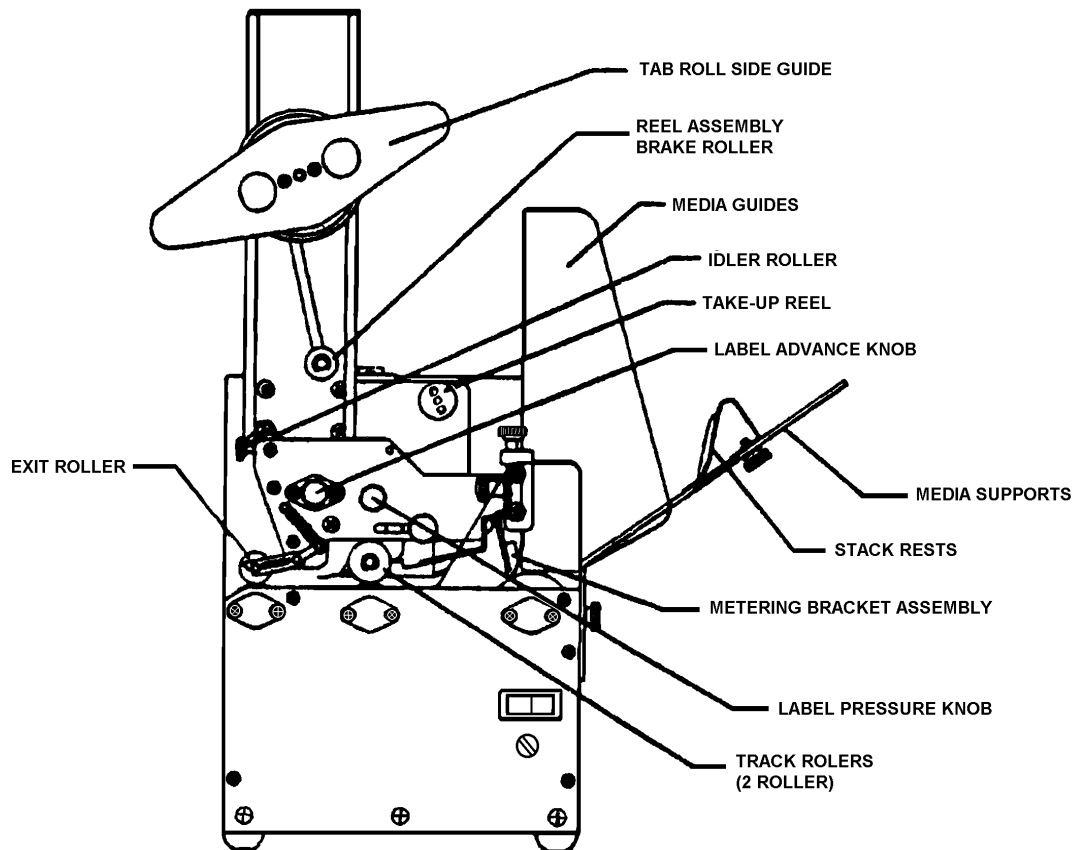

Figure 2
2. Attach MEDIA GUIDES (Fig. 2).
4. Install TRACK ROLLERS [2 ROLLER] (Fig. 2).
5. Install MEDIA SUPPORTS and STACK RESTS (Fig. 2).
1. Remove MEDIA GUIDES (Fig. 2 and 2A).
3. Remove MEDIA SUPPORTS (Fig. 2.)
4. Remove TRACK ROLLERS [2 roller] (Fig. 2).
4. Position STACK RESTS (Fig. 2) under mail piece. Position MEDIA AUPPORTS (Fig. 2) so that back edge of mail piece is in the middle of the support.
7. Run one more mail piece through then check the tab position top to bottom. Adjust if necessary with thumbscrew under and to the right of the LABEL ADVANCE KNOB (Fig. 2).